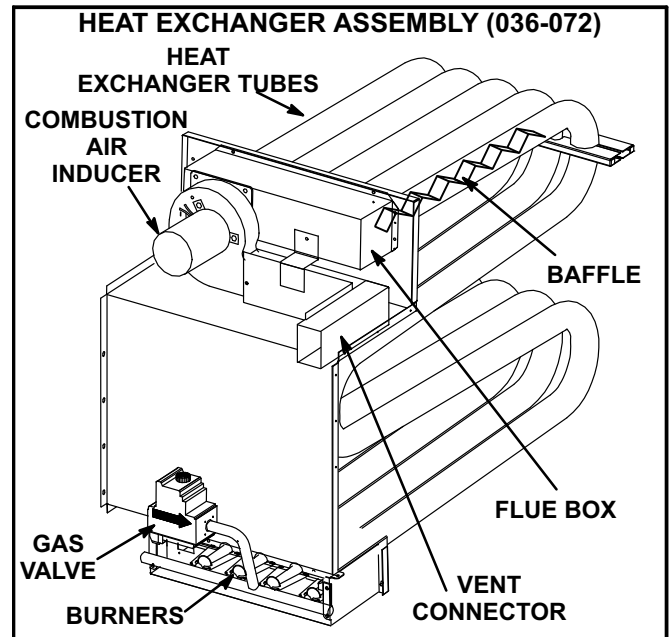

FIGURE 5
Annually, before heating season, inspect the combustion air louvers, vent cap, heat exchanger, burners and combustion air inducer for corrosion, deterioration or deposits of debris. Remove any obstructions or blockage. See figures 5 and 6.
- 3- Remove and retain the screws securing the combustion air inducer to the flue box. Remove and retain two screws from the bracket supporting the vent connector. See figures 5 and 6.